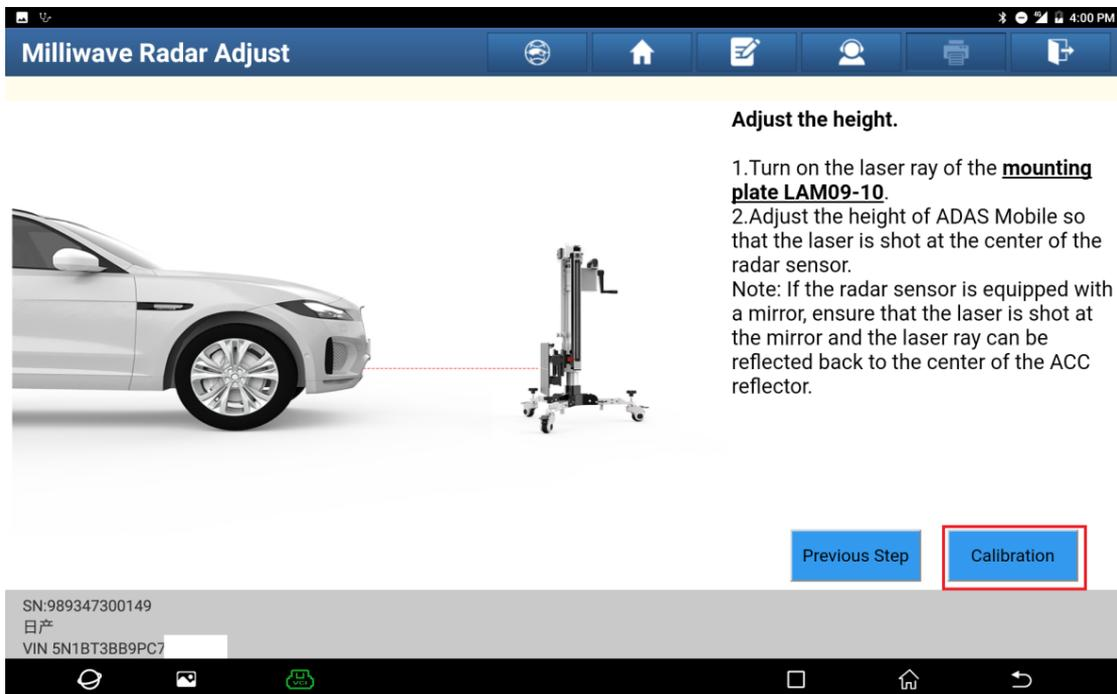

Figure 13
13. Click [Next Step]. Adjust the target height (as shown in Figure 13).